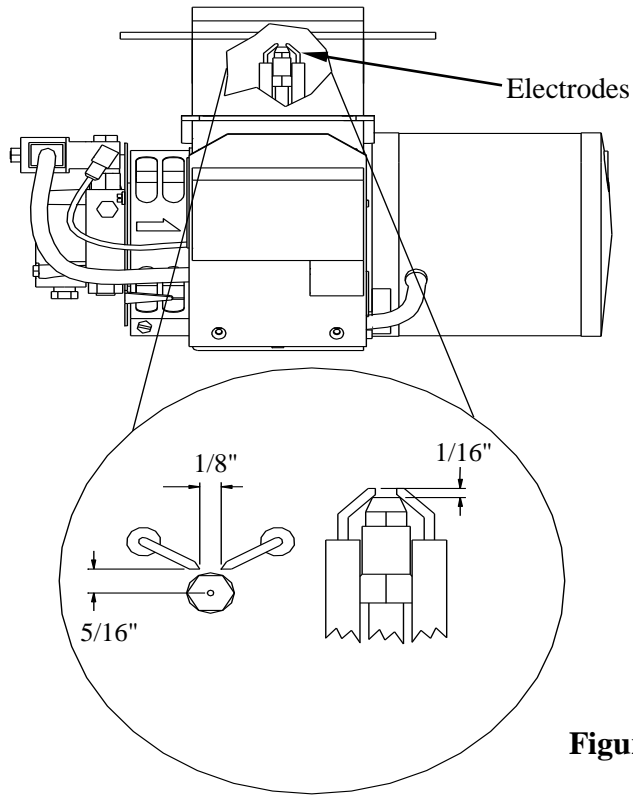

Figure 22
- 4) Reset the spacing as shown in Figure 22.